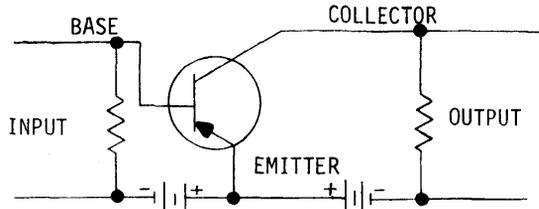

FIGURE 3 - TRANSISTOR AMPLIFIER
- 2.133 Figure 3 shows an example of a simplified amplifier circuit containing a transistor, and Figure 4 shows a comparable circuit containing an electron tube.